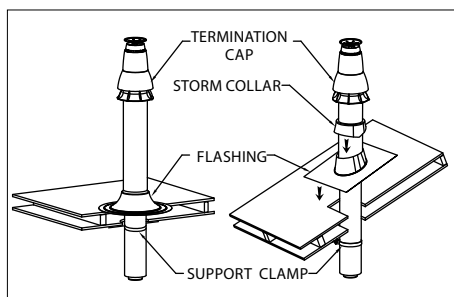

Figure 18
Vertical Concentric (Fig.18)
- Attach flashing to roof. (**Fig.18**)